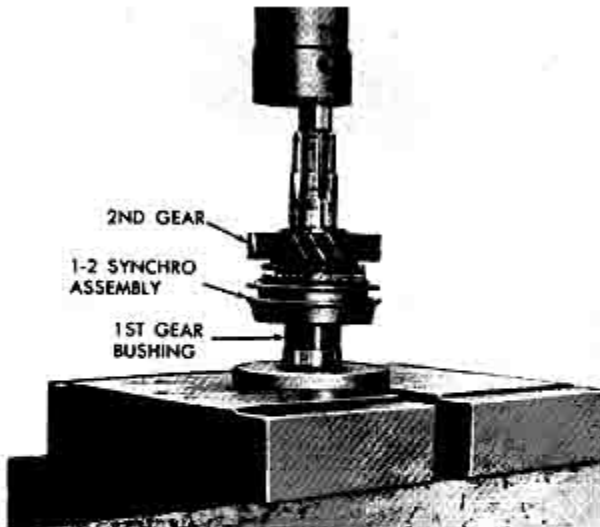

Fig. 18 Installing 2nd Speed Gear, 1-2 Synchronizer Assembly and 1st Speed Gear Bushing
3. Position first speed gear bushing on mainshaft and press onto mainshaft until second speed gear, 1-2 synchronizer assembly and first speed gear bushing bottom against shoulder of the mainshaft (Figure 18).